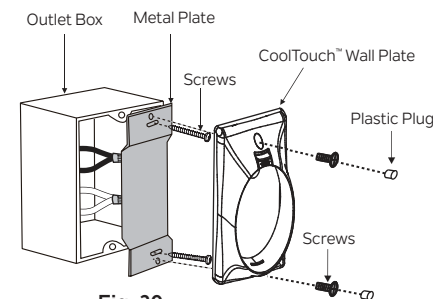

Fig. 30
Step 4. Install the metal plate and the CoolTouch™ wall plate to the existing wall outlet box with the screws provided. Insert the two plastic plugs into the wall plate. (Fig. 30)